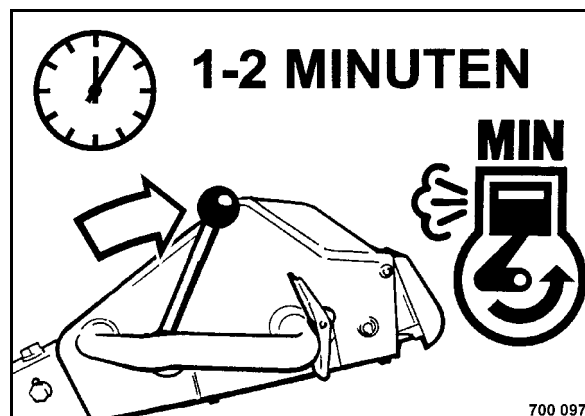

Fig. 39
- Shift the throttle lever to position "MIN" (Fig. 39) and let the engine run with idle speed for a short while.